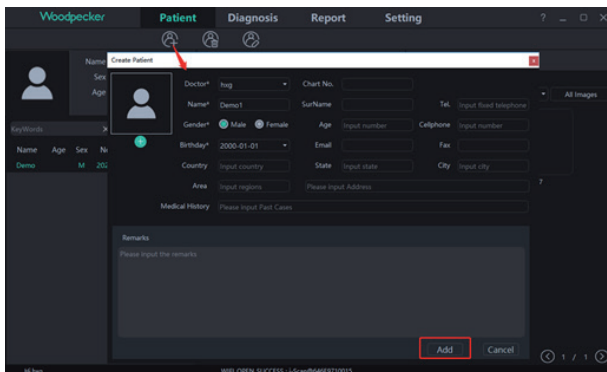

Figure 19
(1) Select the patient from the patient list, as shown in Figure 19, the patient information is displayed in the patient information interface. Click "More details" to view the patient details.